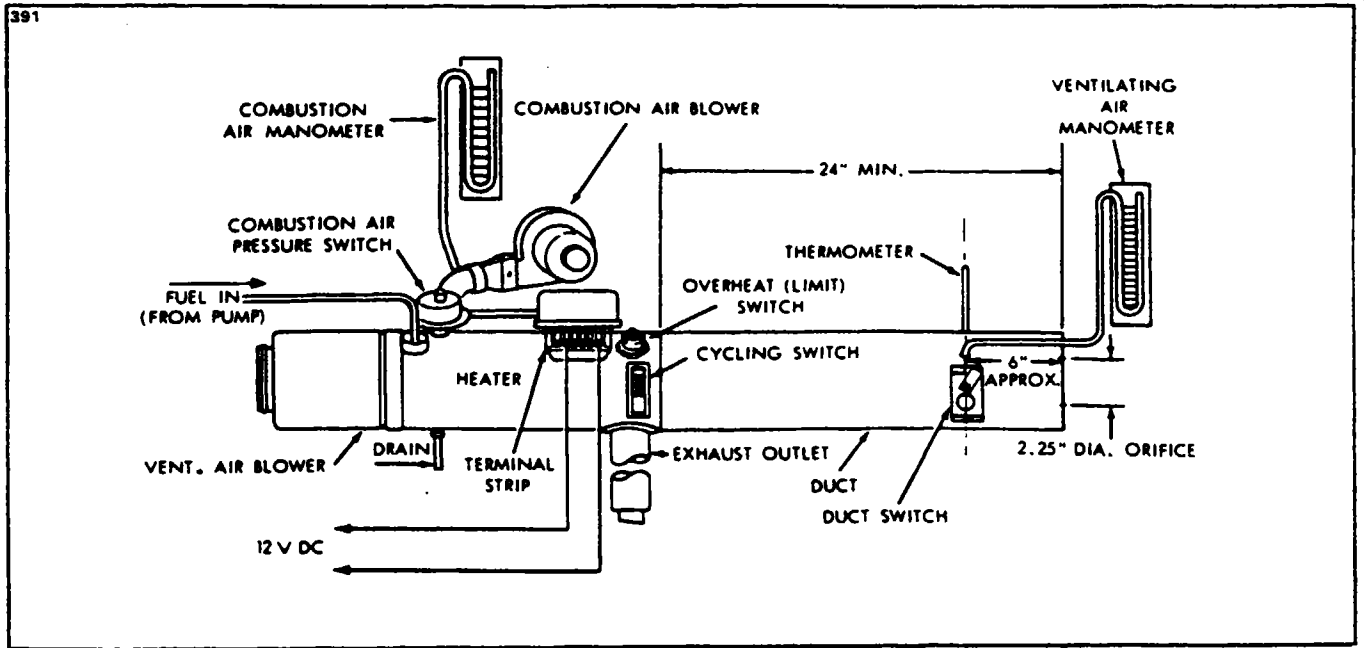

Figure 13-22. Suggested Setup of Heater Operation Test
13-71. EQUIPMENT REQUIRED. (Refer to Figure 13-22.)
- f. A piece of duct to be attached to the downstream end of the heater. It should have a minimum length of 24 inches and the same diameter as the heater being tested. A 2.25 inch diameter orifice should be centrally located at the outlet end. An aperture should be provided for the thermometer and duct switch and a static tap should be attached as shown in Figure 13-22.
13-72. OPERATION TEST (ON TEST BENCH). (Refer to Figures 13-22 and 13-23.)
- a. Connect the heater to the test setup as shown in Figure 13-22. Make sure the combustion air blower is mounted securely and that the heater is clamped to its supporting stand.
- b. Insert the duct switch in the sheet metal extension tube at the location shown in Figure 13-22.